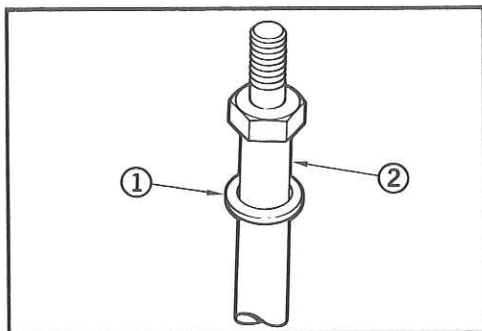

Fig. 12
Refer to Fig. 12 to install the Caterpillar washer (1) on the Jacobs cylinder head bolt (2) and install the bolt into the hole. Tighten the bolt to 203 lbft. (275 N·m).